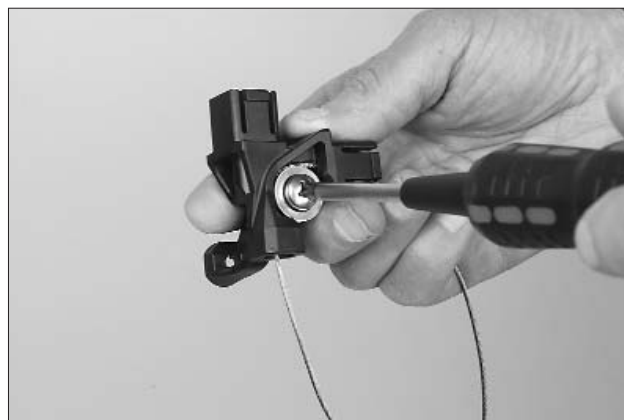

FIGURE 70
7. Insert the supplied bolt into the bearing and tighten securely. Take care not to strip the thread. See Figure 70.